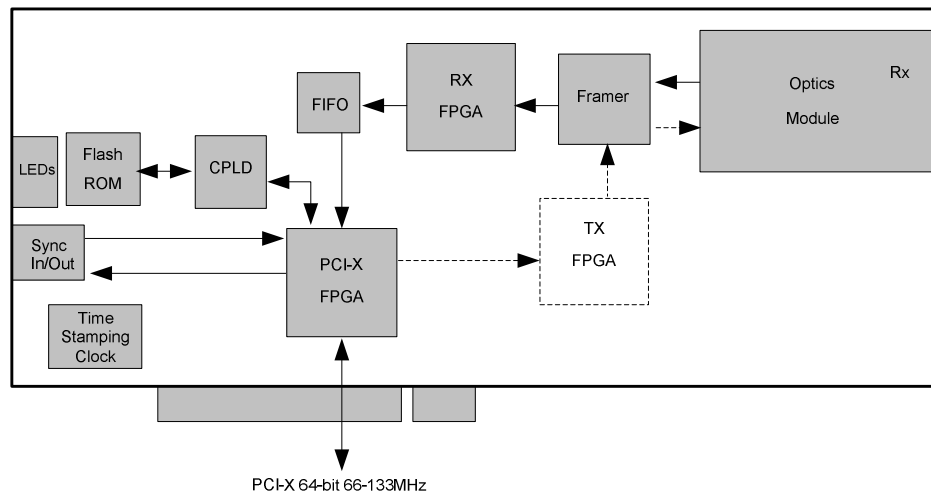

Figure 1-2. DAG 6.1S Card Major Components and Data Flow.
**Figure** Figure 1-2 shows the DAG 6.1S card major components and data flow.